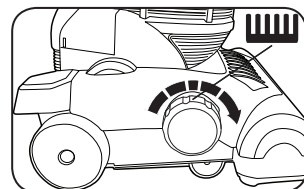

Fig. 4
4. Rotate the height adjustment dial in a clockwise direction to the tools setting (Fig. 4).